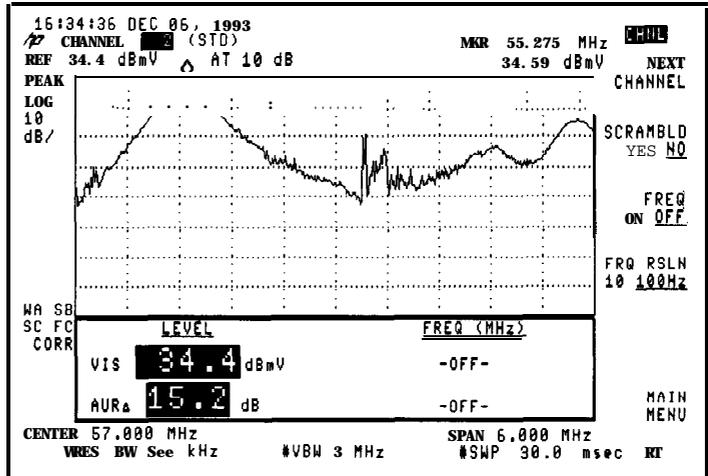

Figure 2-6. Carrier level Measurement
1. Select a channel, then press CARRIER LVL&FRQ. The peak visual carrier level and visual-to-aural carrier difference appear on the screen. See Figure 2-6.